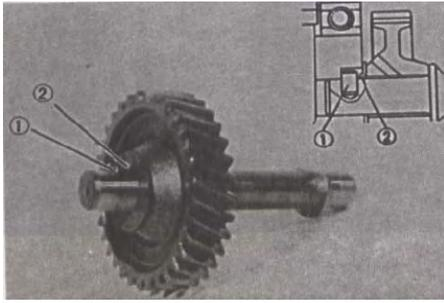

Fig 10-75
(4) install idle gear and washer onto reverse gear shaft and pin into it. Install above as assembled into lower case with pin ① and washer tongue ② aligned as shown in FIG. 10-75,10-76.